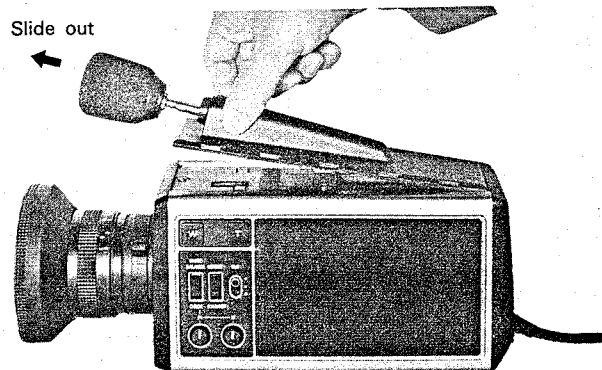
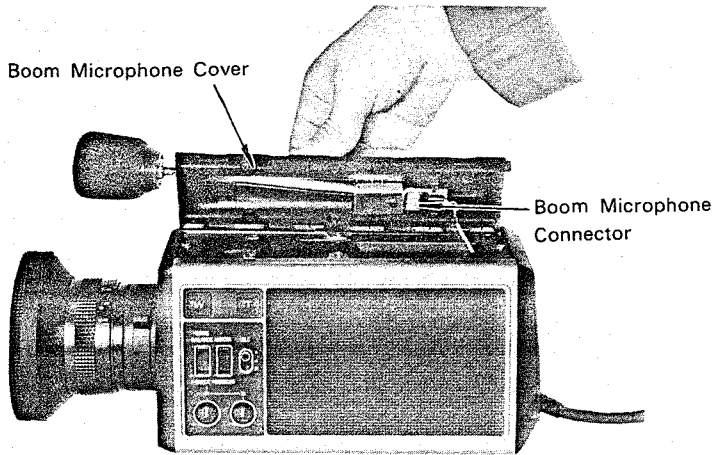

Fig. 2-1-3
Fig. 2-1-4
- Carefully lift up the front portion of boom microphone cover. (Fig. 2-1-3)
- Slide out a little the boom microphone cover forward with care until it unlocks from the rear cover (Fig.2-1-3) and disconnect the boom microphone connector. (Fig. 2-1-4)